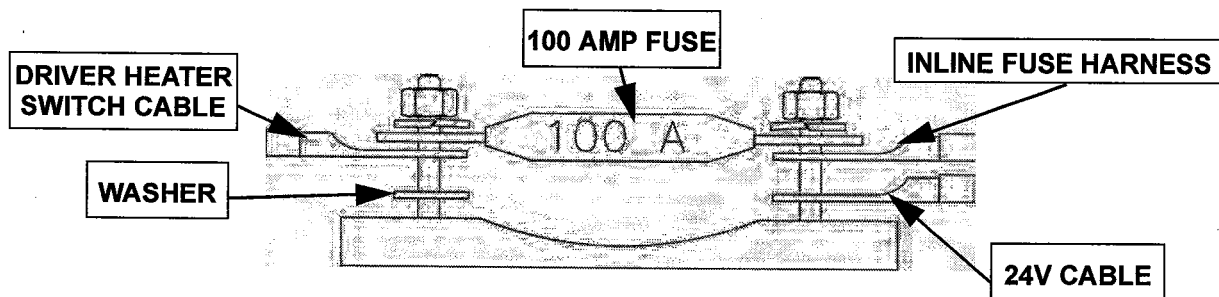

Figure 1-5 Fuse Mounting Hardware Stackup
1. Install washer **BS-4501107** to the left terminal post of fuse holder. See **Figure 1-5**
2. Install the 24V cable to the right terminal post of fuse holder. See **Figure 1-5**
3. Install inline fuse harness **081009516** to the right terminal post of fuse holder. See **Figure 1-5**
4. Install driver heater switch cable to the left terminal post of fuse holder. See **Figure 1-5**
5. Install the 100 AMP fuse **071015038** to the fuse holder. See **Figure 1-5**